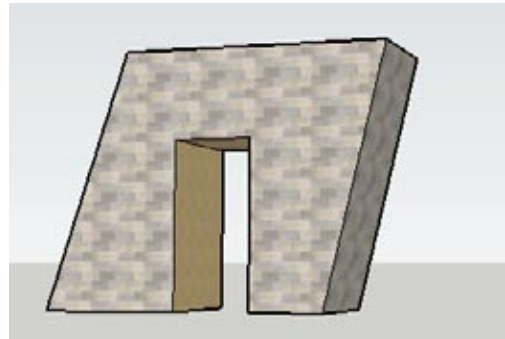

Figure 6-32
1. Start with a tower model like the one in Figure 6-32. You can create your model from scratch, or download my Tower Floor Plans model from the 3D Warehouse.